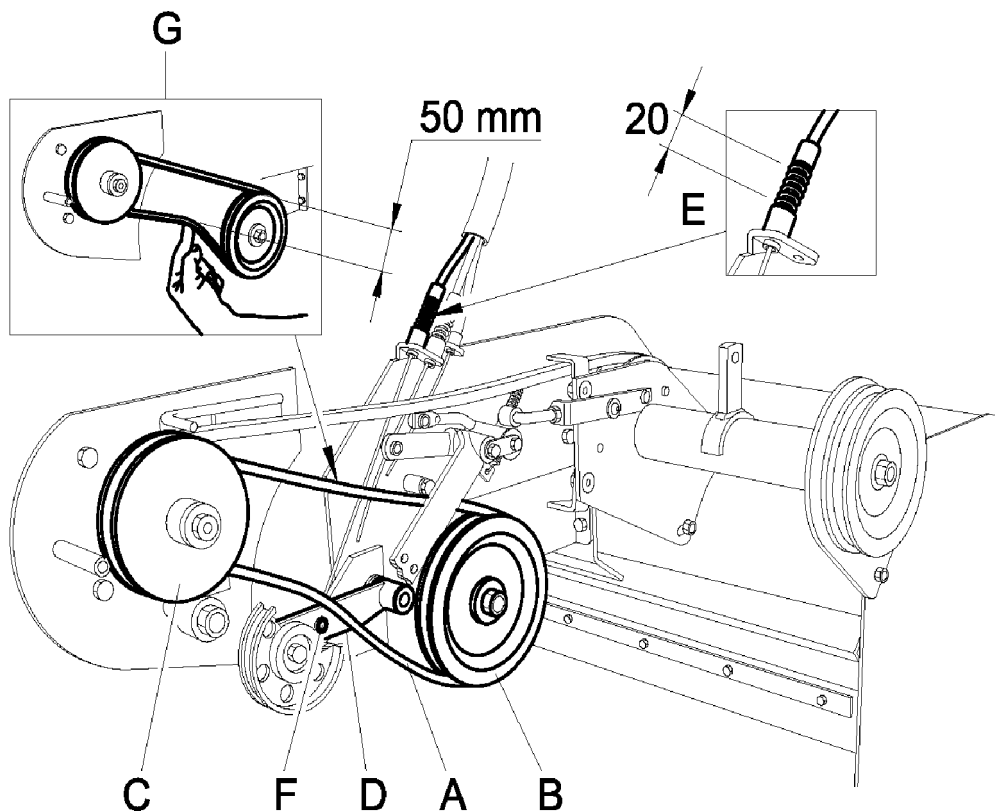

Figure 11
- Extract the forward belt (Fig. 11 Ref A) removing it from the same side as the large pulley (Fig. 11 Ref B) and turning the engine pulley anti-clockwise (Fig. 11 Ref C).
- Fit a new belt by inserting it first in the engine pulley (Fig. 11 Ref C) then in the other (Fig. 11 Ref B).
- Check the distance between the two parts is 50 mm by pressing down on the bottom of the belt (Fig. 11 Ref G) with your finger.
- b) after adjusting the position of the engine and before tightening the locknuts to secure it, check the two pulleys (Fig. 11 Ref B and C) are aligned.
- Act on the forward engagement lever (Fig 5 Ref A) and make sure that the height of the spring during work is 20 mm (Fig 11 Ref E) when the belt tightener is at the end of its run (Fig. 11 Ref D).
- If the height of the spring is not correct when the tightener is engaged, adjust the clamp securing the cable (Fig 11 Ref F) accordingly.